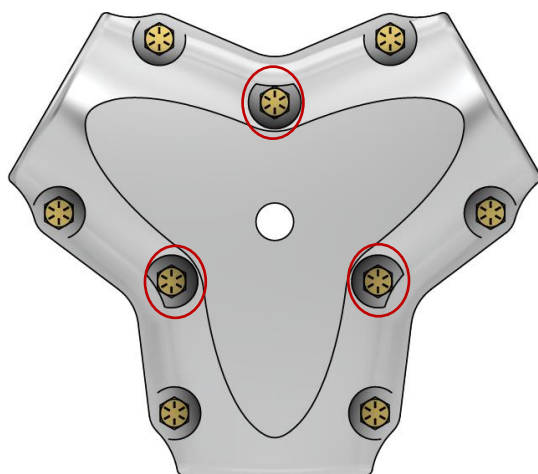

Figure 2
11. Insert three center “top hub to engine” bolts (REF-11) using a Nord-lock washer (REF-12) under the head of the bolt. These are the longer bolts that go through the hub into the crank or threaded extension. Using socket wrench, hand tighten bolts as shown in Figure 2.
Hub-to-Engine Bolts (REF-11/REF-12) are circled in Figure 2.
13. Torque inside “top hub to engine bolts” (REF-11) shown in Figure 2, incrementally starting at: